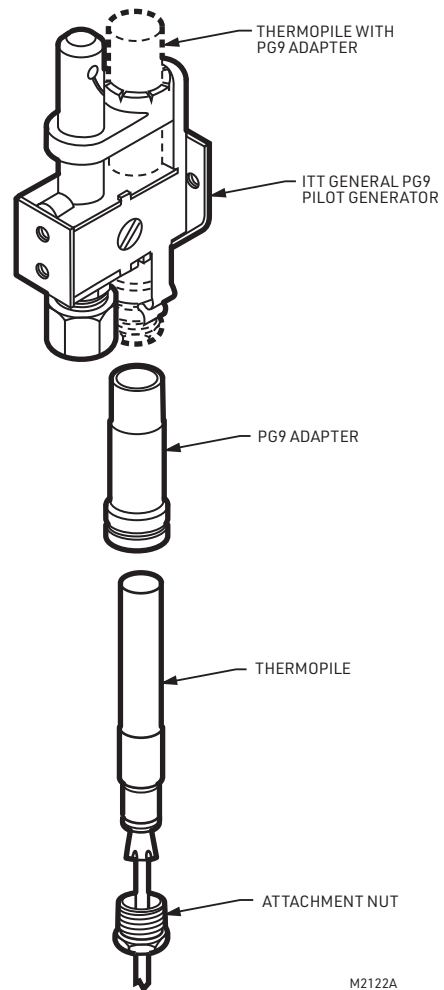

Fig. 4. Installing thermopile with PG9 Adapter.
1. Insert thermopile tip into barrel of PG9 Adapter (see Fig. 4).